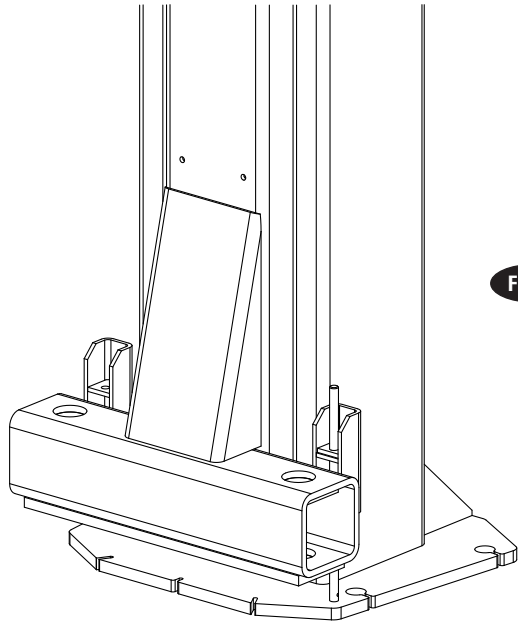

Fig. 30
- B) Insert actuator pin into bracket as shown in Fig. 30. Install spring and secure in place with 3 mm spring pin.